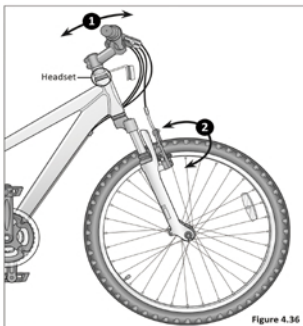

Figure 4.36
- 1 **Shakiness:** Apply the front brake and push the handlebars back and forth, front to back or if the bicycle is on a workstand and the front wheel removed, push and pull on the forks. If you feel a knocking sensation or "clunk" it means the headset is too loose. **Important!** Use care with suspension forks, because the legs may have play in sliders. Grab upper portion of fork. **Figure 4.36**